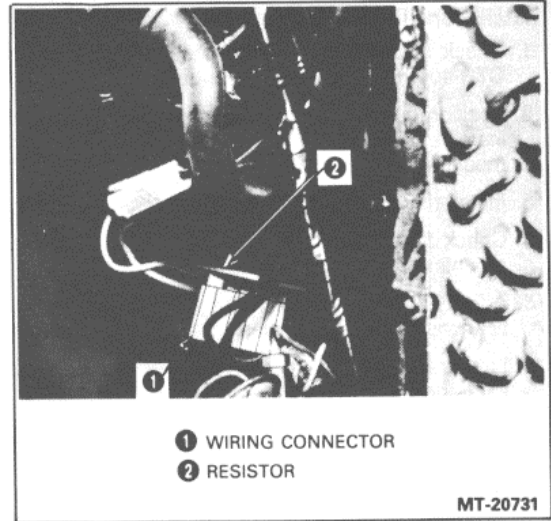

Figure 28. - Blower Resistor Removal
2. Disconnect wiring harness connectors from blower resistor (Figure 28).
1. Position resistor in blower housing. Make sure resistor terminal locations correspond with wiring harness terminals (Figure 28). Install mounting screws.